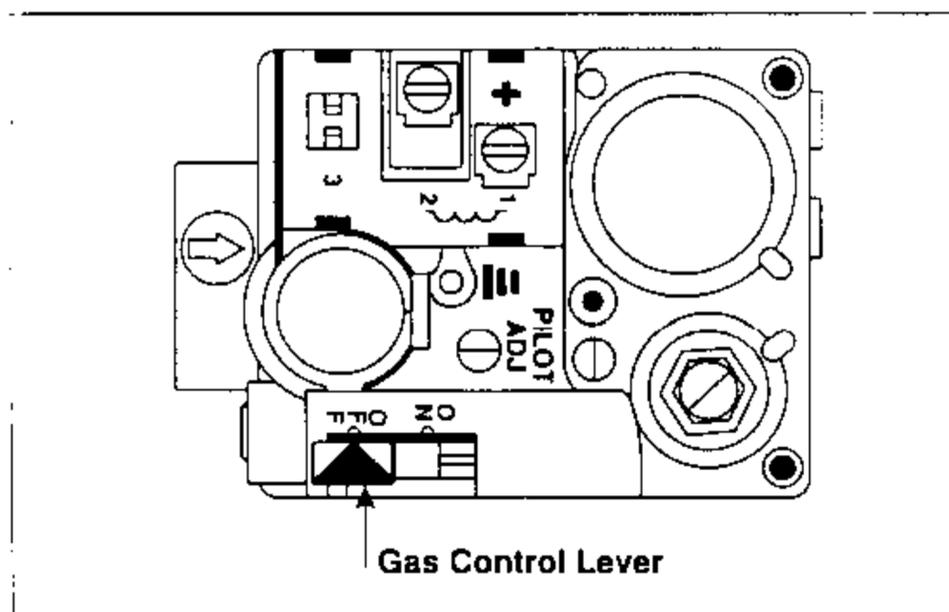

Figure 32. Direct Ignition Gas Valve
- e. Push in the gas control lever slightly and push left to "OFF." NOTE: The lever cannot be placed in the "OFF" position unless it is pushed in slightly. DO NOT FORCE (Figure 32).
- f. Wait ten (10) minutes to clear out any gas. If you smell gas, STOP! and follow step "d" in the SAFETY INFORMATION section. If you don't smell gas go to the next step.